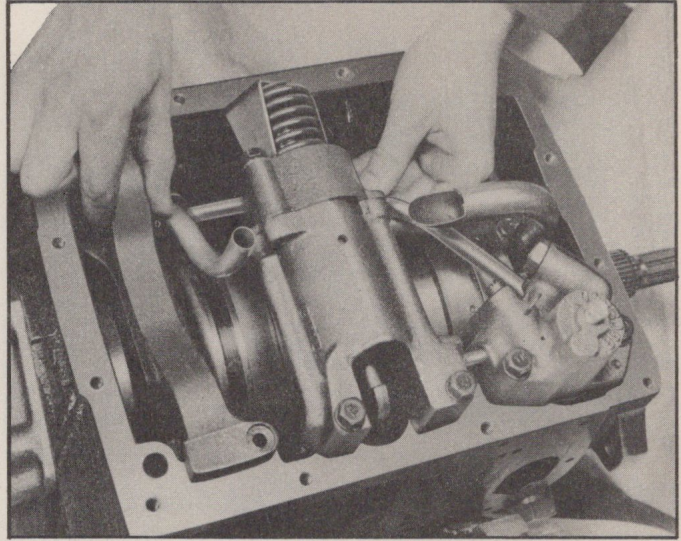

Fig. 94—Removing Rear Oil Pump Discharge Pipe
17. Remove rear oil pump and governor assembly attaching bolts. With pump bolts removed work rear oil pump discharge pipe into rear pump until it comes out of the front servo. Then turn the pipe so that the front end is between the front servo and front unit (Fig. 94). The pipe can then be pulled from the rear pump and removed from the transmission.